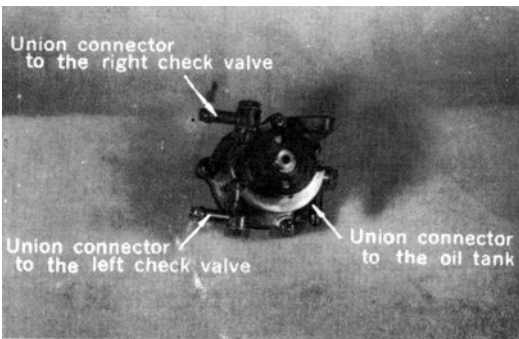

Fig. 90 Assembling the union connectors
1. Assemble the union connectors to the pump body as shown on (Fig. 90)